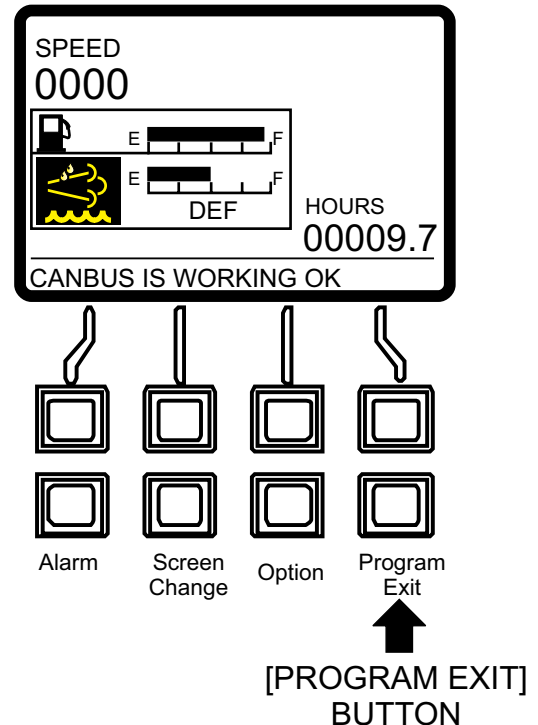

Figure 79. Main Screen
3. Next, press the [Program/Exit] button (Figure 79) to enter the Main Menu.